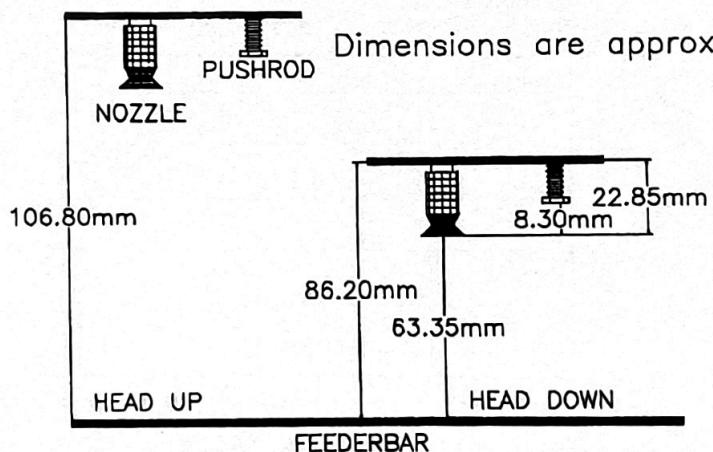

Fig. 3.5.4. LCS Dimensions
- Check the head down position and distance between head and pushrod. When this is corrected, check the position at the palettes also (refer to figure 3.5.4.)